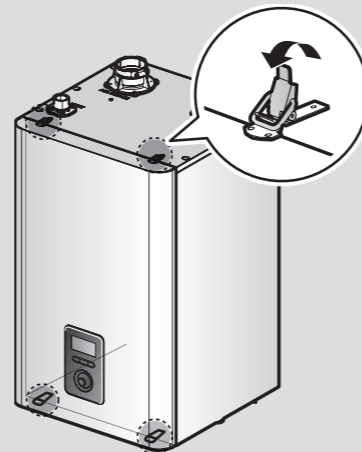

Figure 1. NFB-H Series Front cover
- Unfasten the 4 latches (2 at the top and 2 at the bottom) to remove the front cover and gain access to the internal components. See Figure 1 for illustration of the front cover clamps.